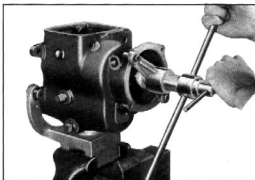

Fig. 5—Removing Mainshaft
13. While holding puller shaft handle, turn the puller handles clockwise to force the mainshaft out of the rear bearing, Fig. 5. Disassemble the puller from the mainshaft and the transmission case, and remove the mainshaft from the transmission through the front of the case.